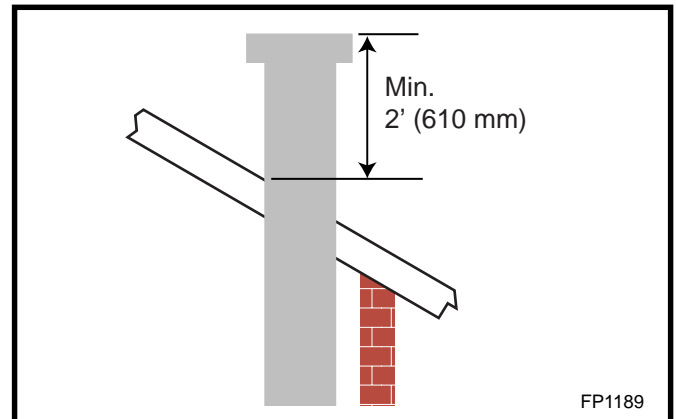
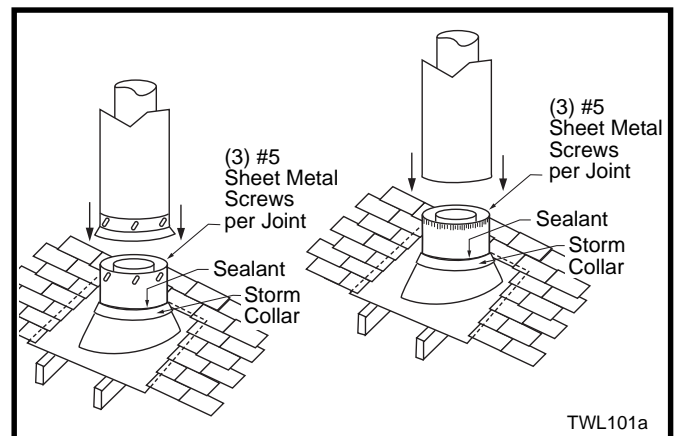

Fig. 33 Minimum termination to roof clearance.
Fig. 34 Roof flashing.
- The minimum height of the vent above the highest point of penetration through the roof is 2' (610 mm) (Fig. 33).
7. Install roof support (Fig. 33) and roof flashing, making sure upper flange is below the shingles (Fig. 34).
8. Install appropriate pipe sections until the venting is above the flashing (Fig. 34).
10. Add additional vent lengths for proper height (Fig. 33).